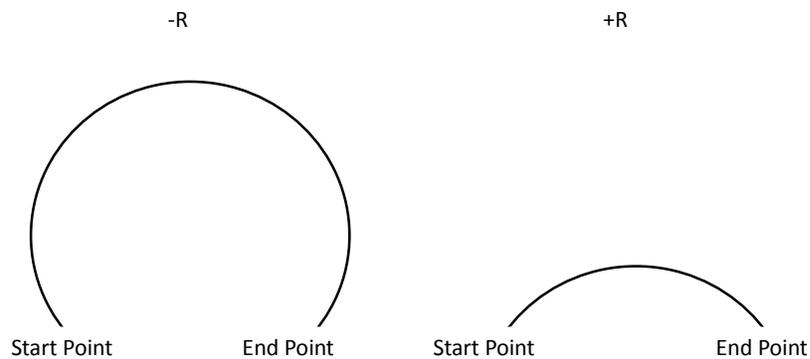

FIGURE 3 DIFFERENCE BETWEEN NEGATIVE AND POSITIVE VALUES FOR R
- To specify the radius, use R and input the actual radius of the desired arc, see Format 2. When an arc is created knowing only start and end points and a radius there are two possible solutions, an arc with a sweep less than  $180^\circ$  and one with sweep greater than  $180^\circ$ . The sign of the radius value, positive or negative, determines which arc will be cut, see figure 3. A positive value for R cuts an arc with sweep less than  $180^\circ$ . A negative value for R cuts an arc with sweep greater than  $180^\circ$ .